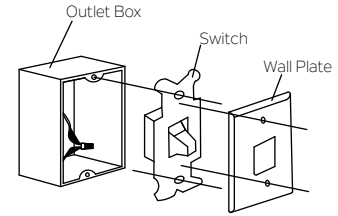

Fig. 19
Step 1. Remove the existing wall plate and the old switch from the wall outlet box. Wire nut the BLACK leads (hot) together and push back inside the outlet box. (Fig. 19) or select the desired location with a new wall outlet box.